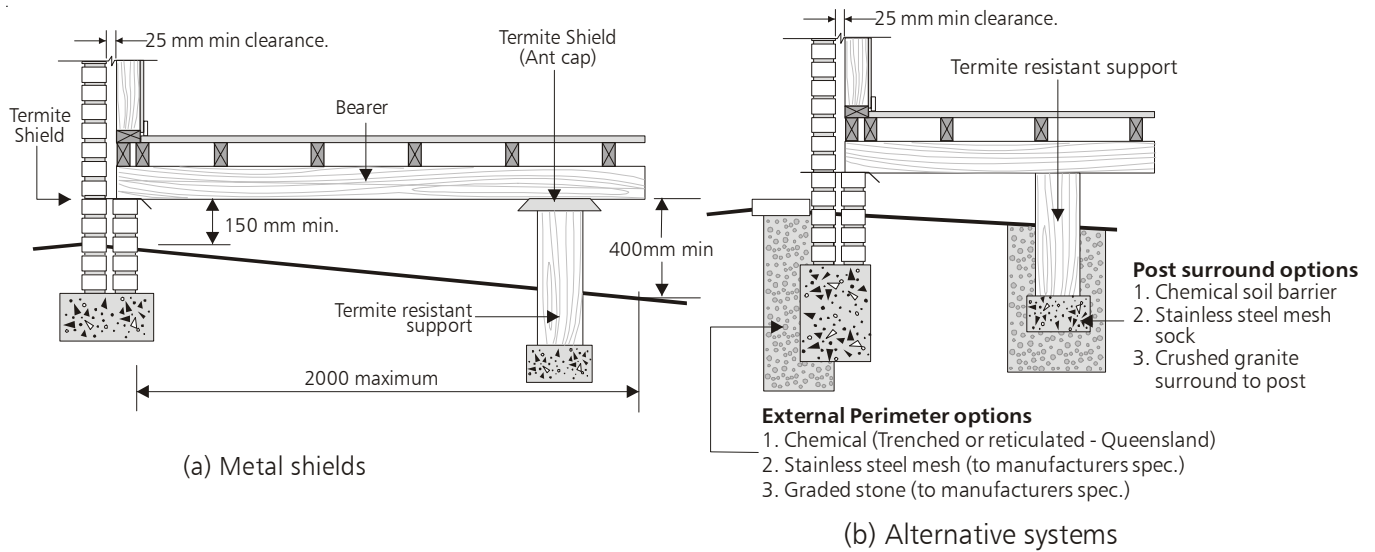

FIGURE 1 TERMITE BARRIERS FOR SUSPENDED TIMBER FLOORS
- Timber houses with elevated timber floors should be designed to ensure a physical barrier is installed between the lowest floor timber and the ground. This also applies to stairs, pergolas and decks that attach to the building (refer Figure 1). Termite resistant or preservative treated timber stumps and posts should be used to support floors (refer Termite Resistant Timbers). Other termite resistant materials may also be used.
- Wherever possible, buildings should be designed with physical barriers to prevent termite access to the structure. Refer to Figures 1 and 2 and AS 3660.1.
AS3660.1 provides a range of options for the protection of new buildings from subterranean termites. Figures 1 and 2 summarise these for timber floors and monolithic slab on ground construction respectively.
- Install physical barriers or chemical soil barriers in accordance with the BCA and AS 3660.1. Refer Figures 1, 2 and 3.